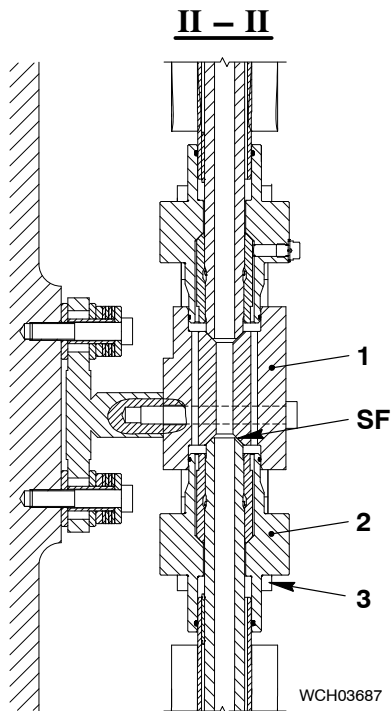

Fig. 7
- 7) Remove the four screws (3, Fig 7) from the flange (2).
- 8) Carefully move the flange (2) away from the intermediate piece (1).